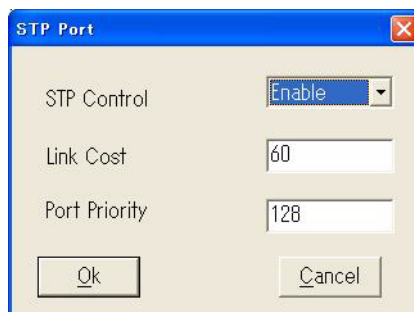

Fig. 4-4-73 STP Parameter Setting
- 2 Double-click a row of record, **Fig. 4-4-73** appears: